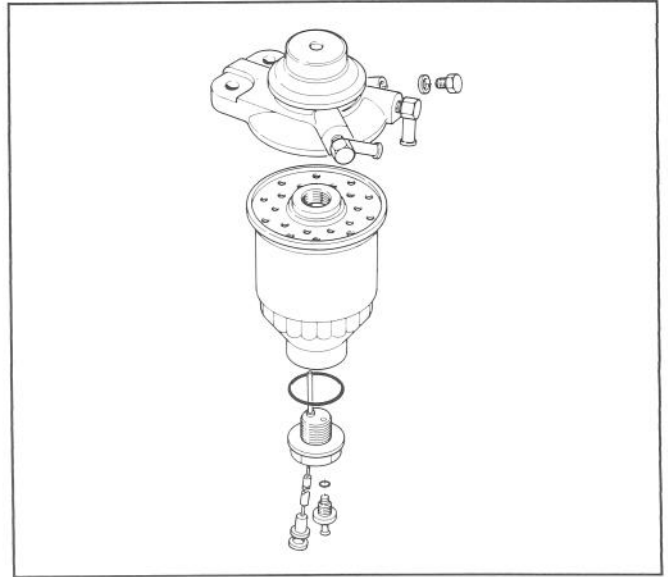

Figure 37
2. Replacing Filter – Replace filter if fuel flow is restricted, after every 500 hours of operation, or annually, whichever comes first. To replace, disconnect wire connectors and unscrew drain outlet and O-ring (Fig. 37). Unscrew filter and replace with new Toro
filter (Fig. 37). Install drain plug and O-ring. Push wire connectors together.